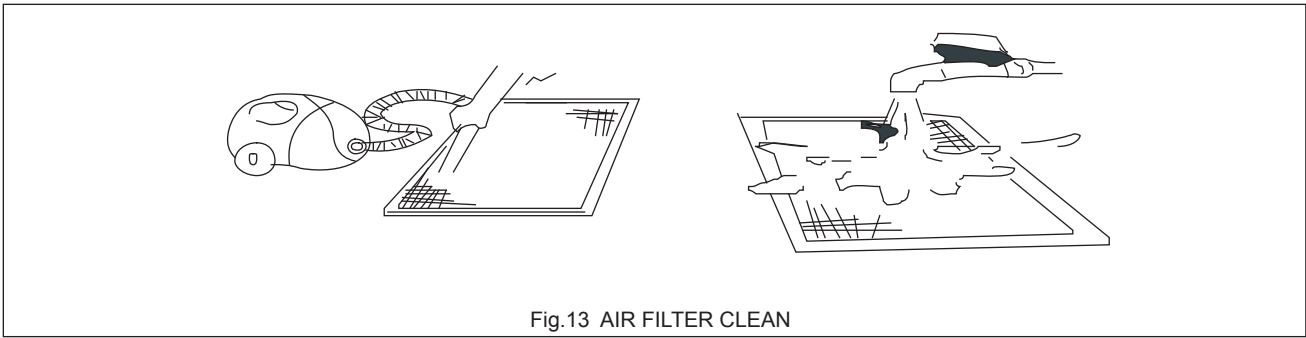

Fig.13 AIR FILTER CLEAN
- 3.Clean the air filter (Vacuum cleaner or pure water may be used to clean the air filter. If the dust accumulation is too heavy, use soft brush and mild detergent to clean it and dry out in cool place).See in Fig.13.